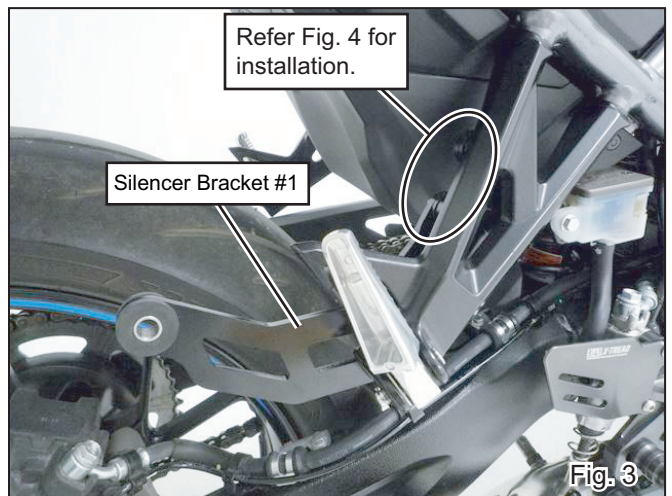

Fig. 3
- 4) Install Silencer Bracket #1 on vehicle's right-side passenger footpeg using Hex Bolt M8x20(Black), Washer M8x20(Black), and Spacer 8-20-3(Black) (See Fig. 3, 4).